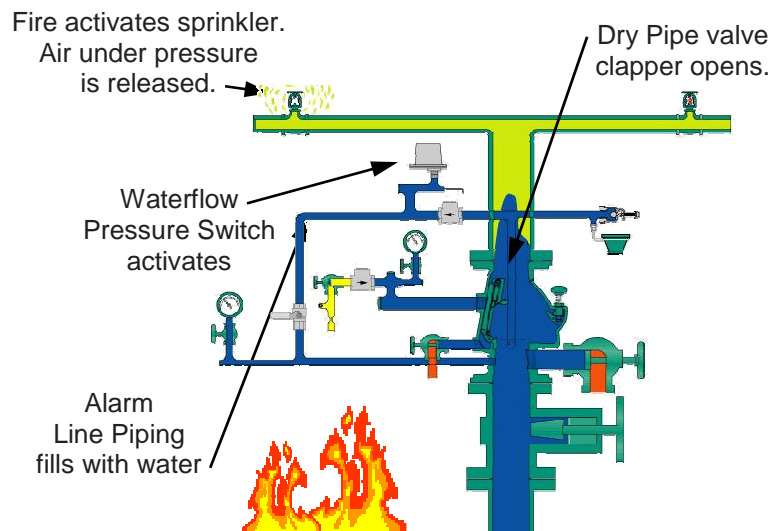

Fig. 2 Dry Pipe Valve clapper opens
When the system air pressure drops low enough the dry pipe valve will open (Fig. 2). This allows water to fill the system piping and discharge through open sprinklers. The water also fills the alarm line piping activating the **waterflow pressure switch (B)**. Note that dry systems must utilize **pressure type flow switches**. Per NFPA 13, paddle-type waterflow devices **(C)** are prohibited on dry pipe systems. This is due to when a dry pipe valve opens, water rushes into the system with such force the paddle-type flow switch might be damaged or the paddle may disengage completely, be carried into the system, and become lodged in the piping causing an obstruction.